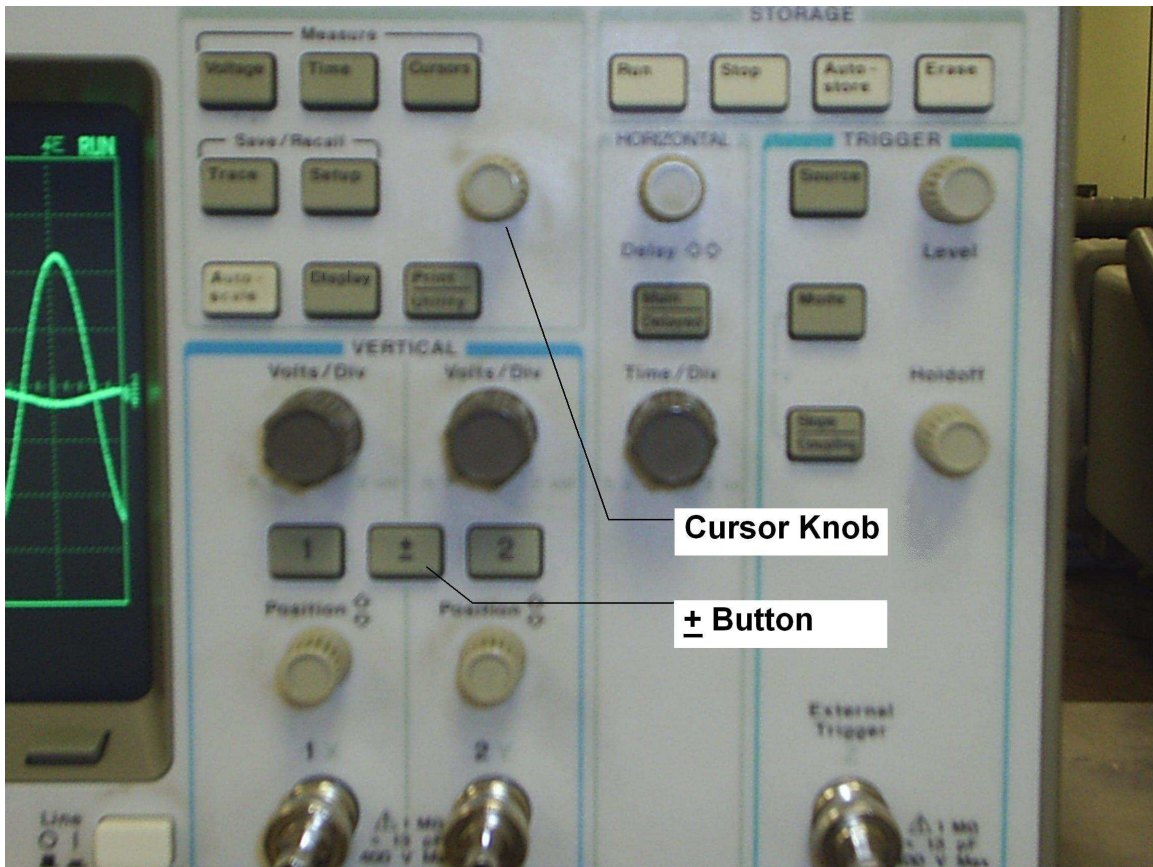

Figure 2.11: HP oscilloscope control panel
4. Push the “±” button on the oscilloscope to pull up the function options. See figure 2.11 for a layout of the oscilloscope control panel.